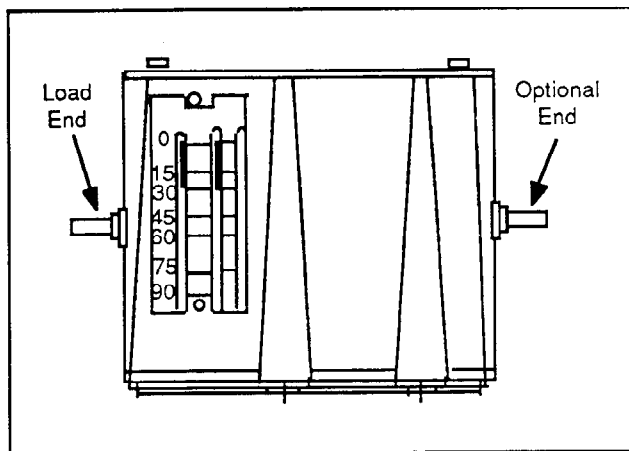

Figure 5. Output Shaft Designation for MM & MMR-400 Series
2. On non-spring return motors (MM-400) select "Load" end of modular motor. On spring return motors (MM-500) select "Normally Closed-CCW" end when installing to a N.C. Honeywell valve and select "Normally Open-CW" end when installing to a N.O. Honeywell valve. (See Figures 5 & 6).